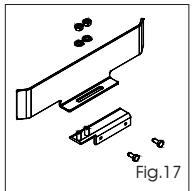

Fig. 17
- 1) Fit and secure the 2 profiled steel plates on the 2 U-supports, using the supplied nuts and washers, as shown in figure 17.